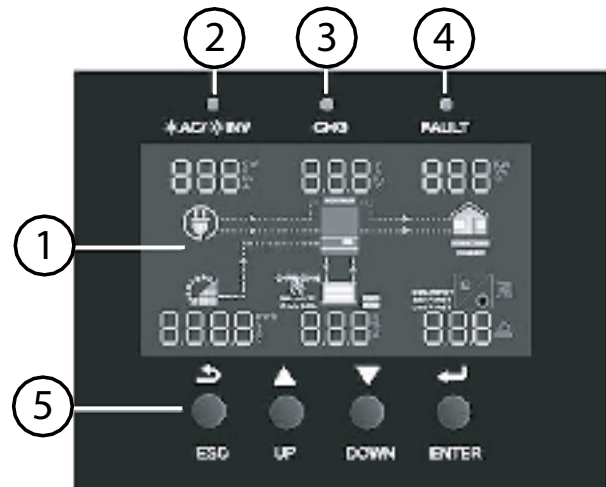

Figure 1-17
(See *Figure 1-17*)
2. To initialize “SETTINGS” mode, hold the ENTER button for 3 seconds. (See Figure 1-17)